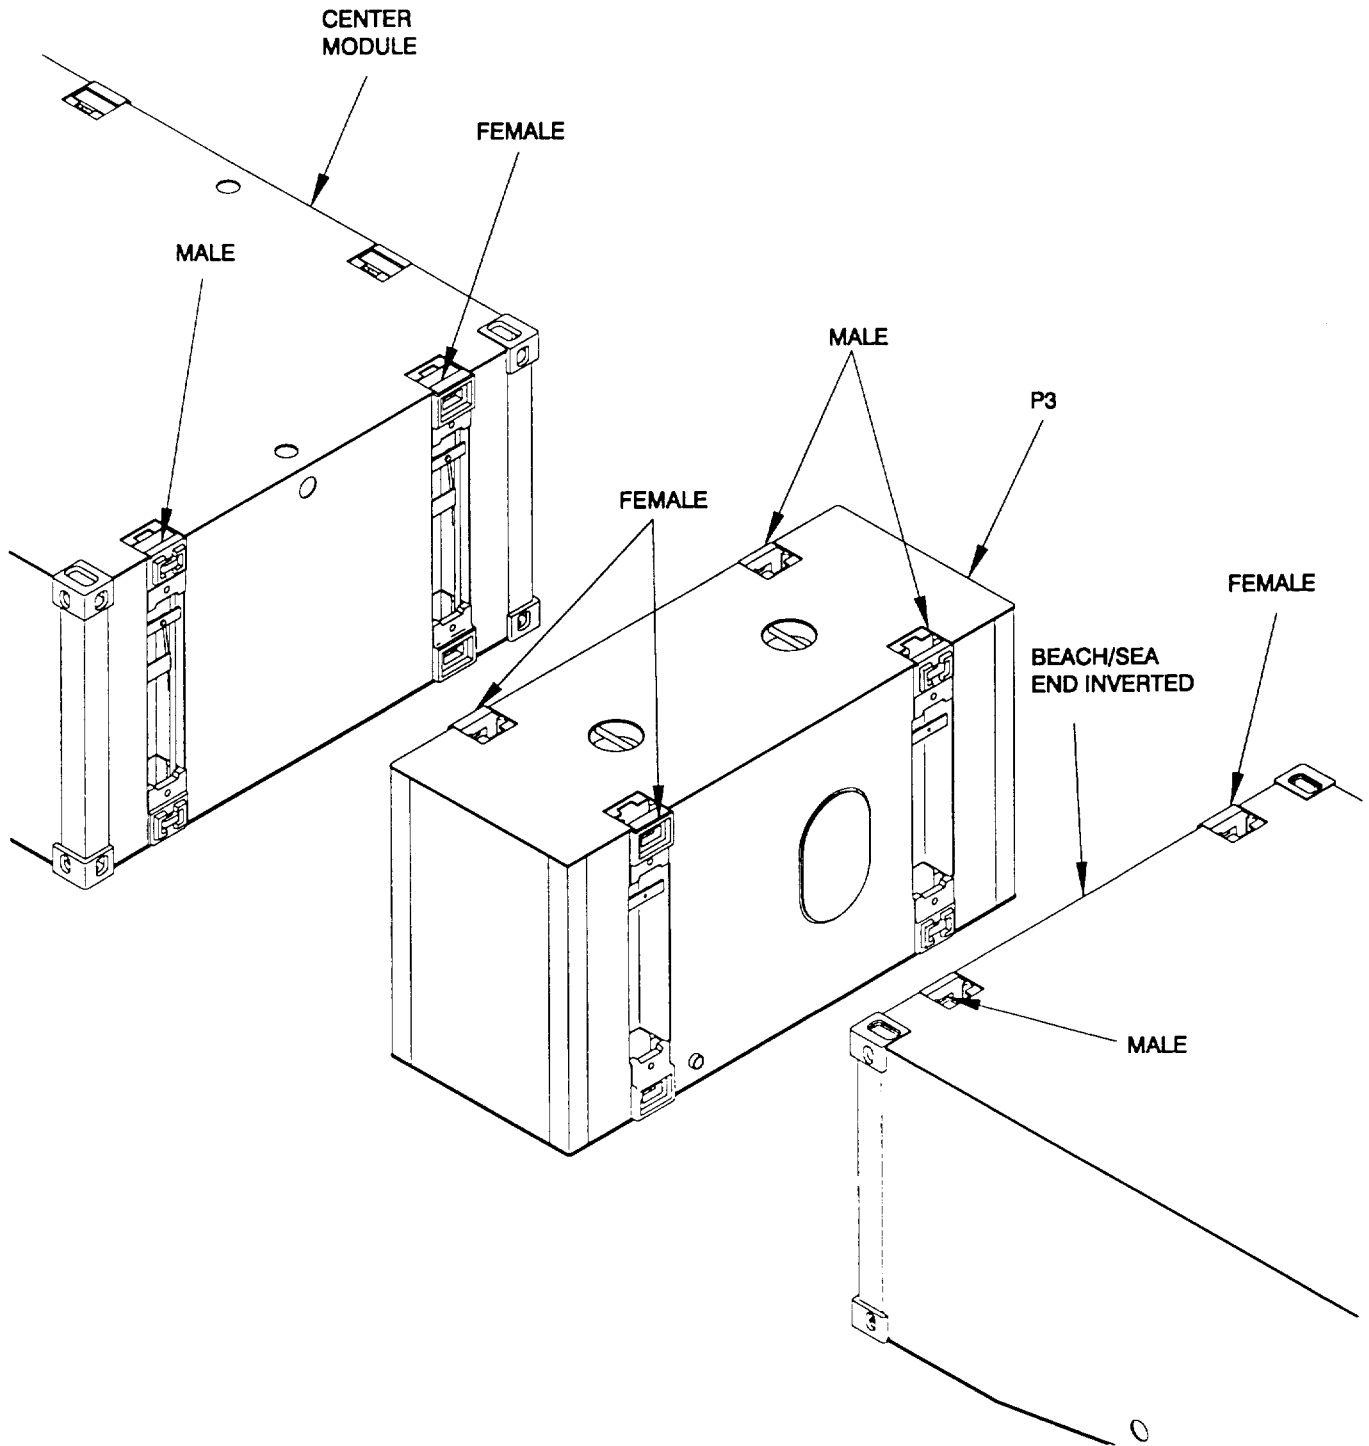

Figure 2-31. P-3 Adapter Assembly Connector Assembly.
**2-7.4 P-3 Adapter Assembly Connection Assembly.** The P-3 Adapter Assembly (Figure 2-31) is positioned between the center module (non-powered) and the beach/sea end module. This allows the beach/sea end to be installed in the inverted position (optional configuration). When in the inverted position, guillotine bars are inserted into the opposite connector positions. The male and female connectors are positioned in accordance with Figure 2-32. The male and female connections are made in accordance with Paragraphs 2-7.2 and 2-7.3.